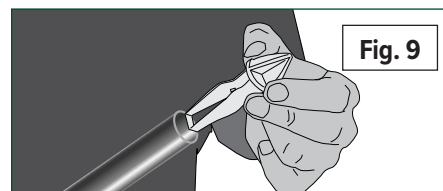

Fig. 9
3. **(Fig. 9)** Next, attach **Hex Column** to the bracket in the middle hole, using one 3/8-16 x 1" bolt, lock washer and washer.
2. **(Fig. 9)** Place the plastic Side Tube Insertion Plugs into both ends of one Side Tube.